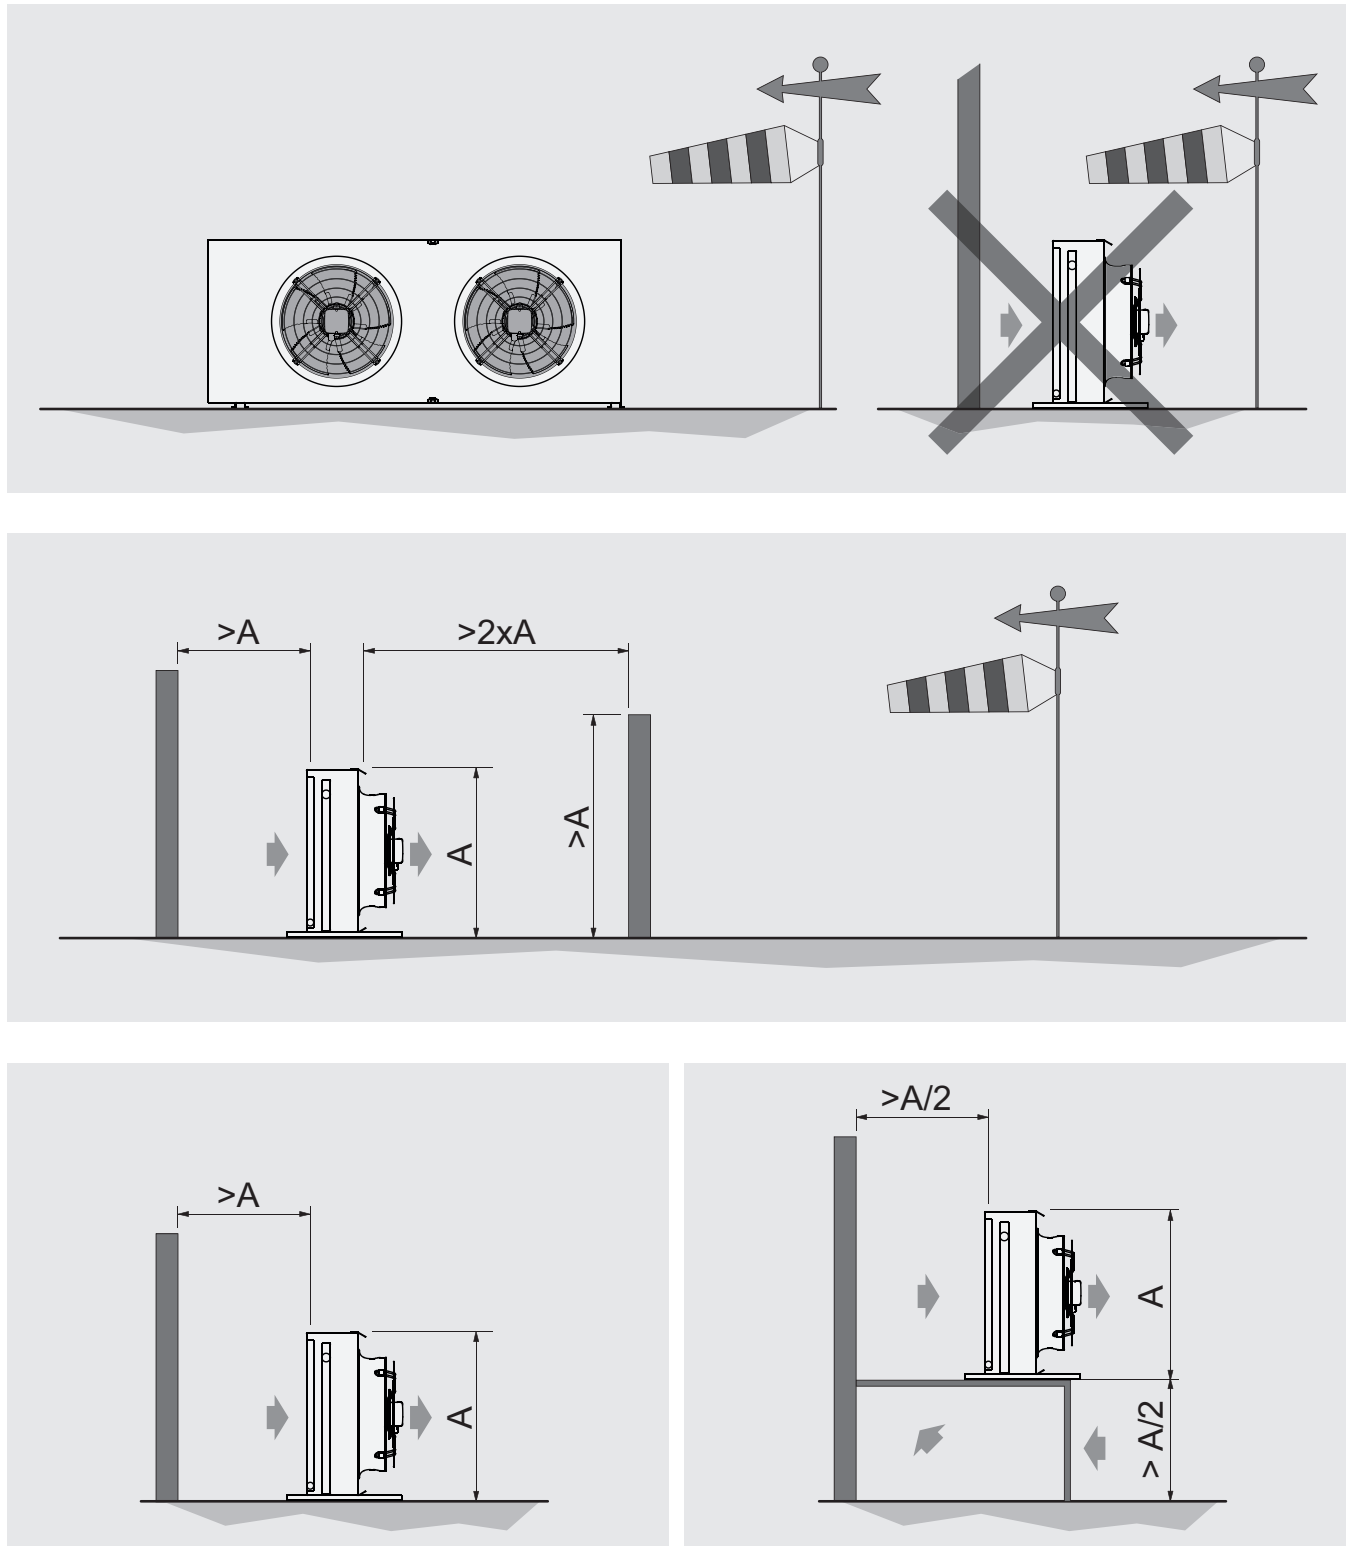

Figure 6
6.13 Provide space adequate to the circulation of air and for maintenance. Avoid directing the air flow against surfaces that are reflective or that otherwise increase the noise level. The minimum space between the models may be reduced according to the height of positioning with the use of special raised supports or a platform. For installations that are different from what is indicated, contact Modine. See Figure 6.